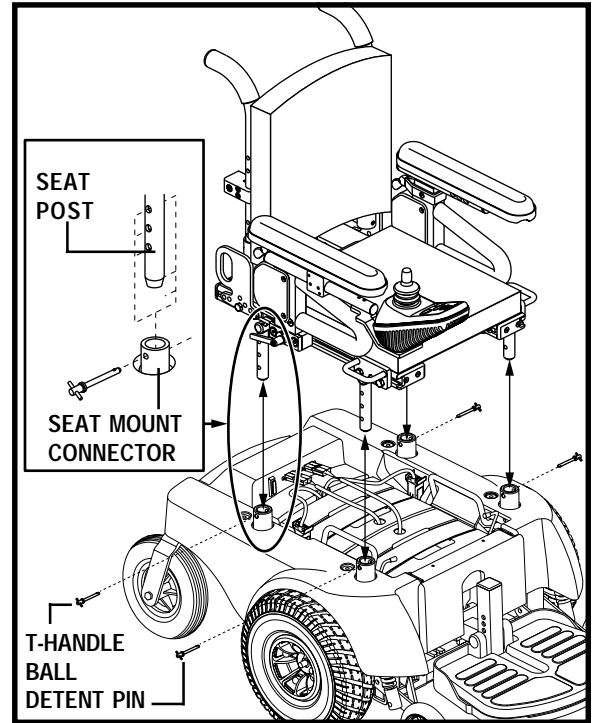

Figure 10. Removing the Seat
2. Remove the four (4) T-handle ball detent pins securing the seat to the power base. See figure 10.
1. Position the seat directly over the power base so that the seat posts line up with the seat mount connectors. See figure 10 for seat post and seat mount connector location.